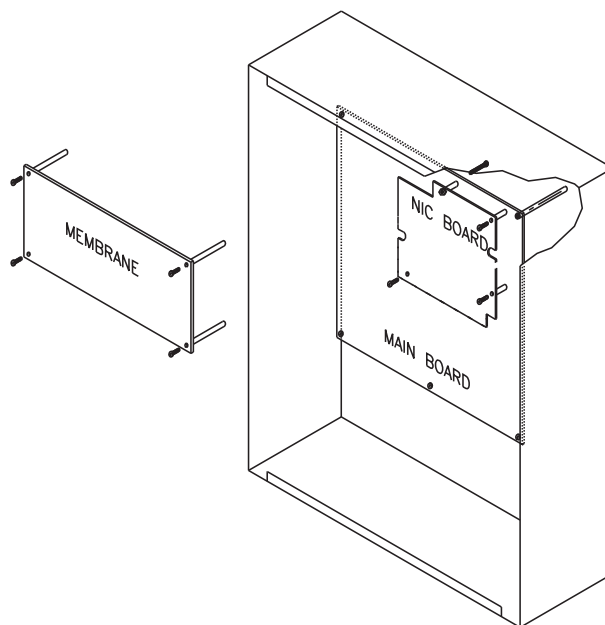

Figure 2-33. NIC Installation
Refer to Figure 2-33 before you install the NIC and perform the following procedure to install the NIC on the FENWALNET 6000's printed-circuit board.
3. Remove the NIC from its shipping carton and locate the three plastic standoffs included in the installation kit. Insert these standoffs into the three mounting holes in the PCB as shown in Figure 2-33.